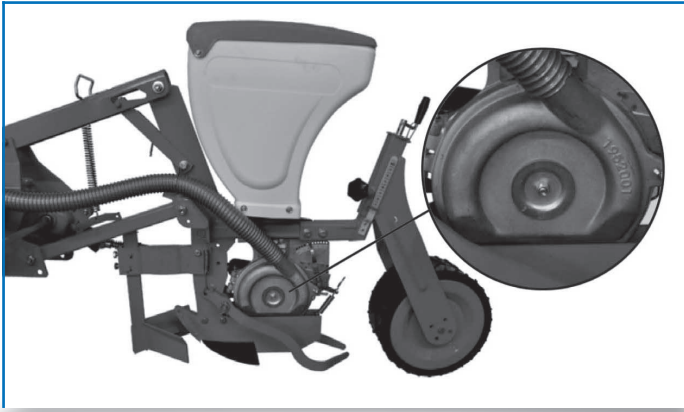
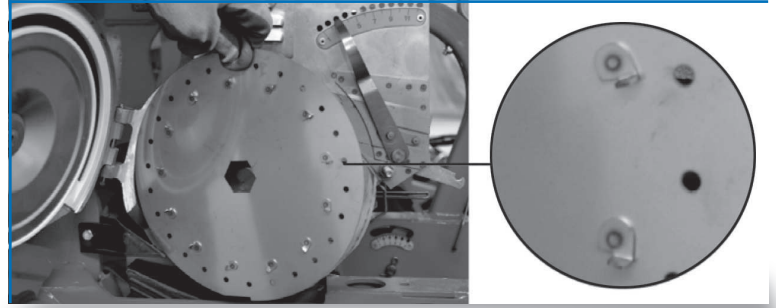

Figure 8
Figure 9
One piece of perforated placard (Fig. 9) is placed in each sowing units (Fig. 8) according to type of the seed. Seed is held to the holes on the placard (seed shouldn't enter into the hole) by means of the vacuum that created by impeller. Seeds that adsorbed to holes go down to bottom of sowing unit by turning discs and they fall into soil by cutting o air suction. One piece of sowing placard is engaged on each unit of machine during delivery. Producer can supply the seed discs that specied on Table 4 according to the customer's demand.
- Nails that are directed inside the unit should be on the perforated placard (Fig. 8).